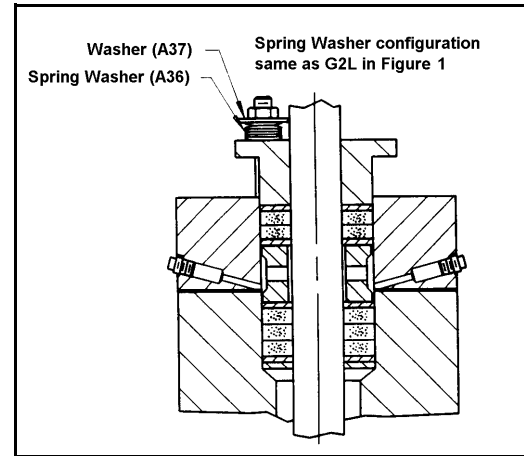

Figure 10—Graphoil Dual Seal Live-Loaded Packing Option G2DL
- a. Lubricate the inside and outside diameters of each new packing ring with Krytox 240 AC lubricant. Place the primary (lower) set of new packing (A11) and anti-extrusion washers (A34) in the body, one ring at a time, in the configuration shown in Figure 10.
- d. Place the following components in the configuration shown in Figure 10: